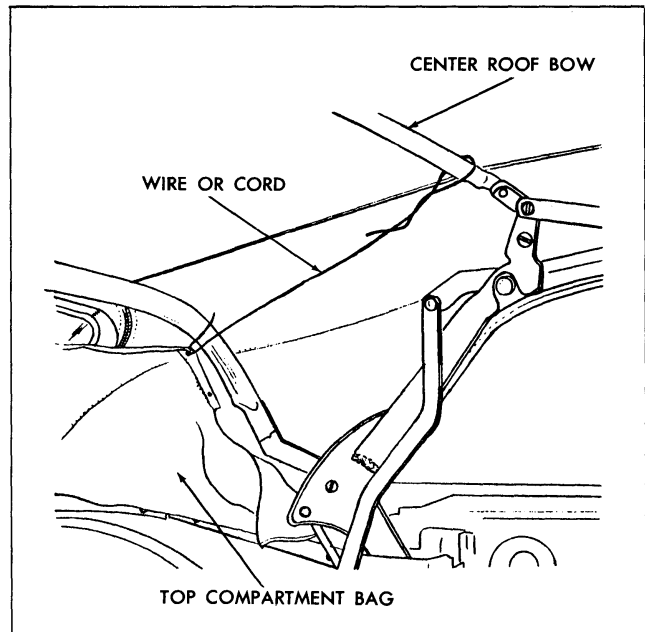

Fig. 22-30 Top Compartment Bag Tied
5. Detach folding top compartment bag from rear seat back panel, thus exposing rear quarter and rear trim stick attaching bolts. Forward end of top compartment bag may be tied or wired to center roof bow to provide ready access to attaching bolts (Fig. 22-30).